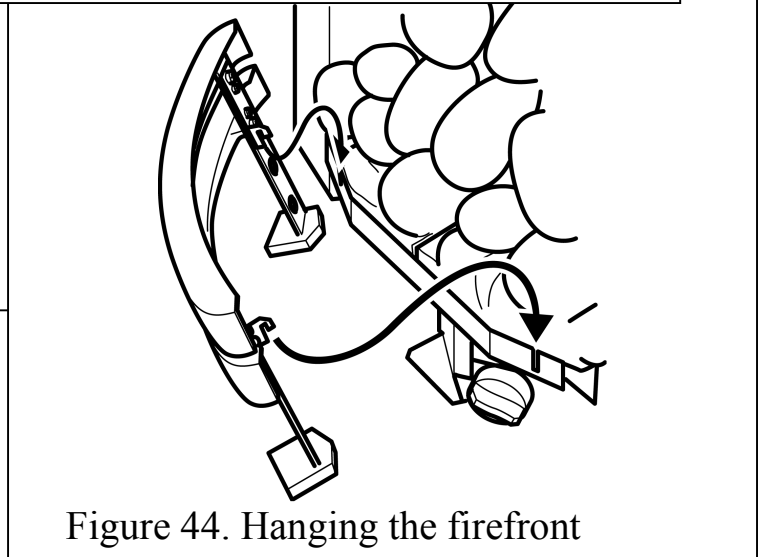

Figure 44. Hanging the firefront
2. Locate the firefront as in figure 44. The hooks should fit into the slots on the burner tray.